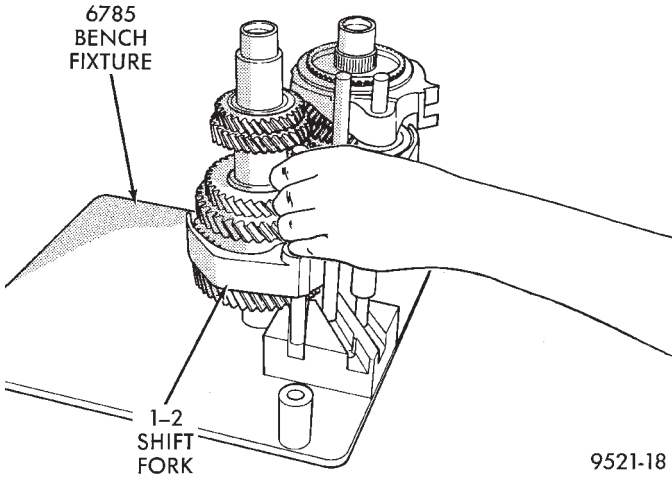

Fig. 64 1-2 Shift Fork Removal
(20) Remove the 1-2 shift fork from the output shaft (Fig. 64).